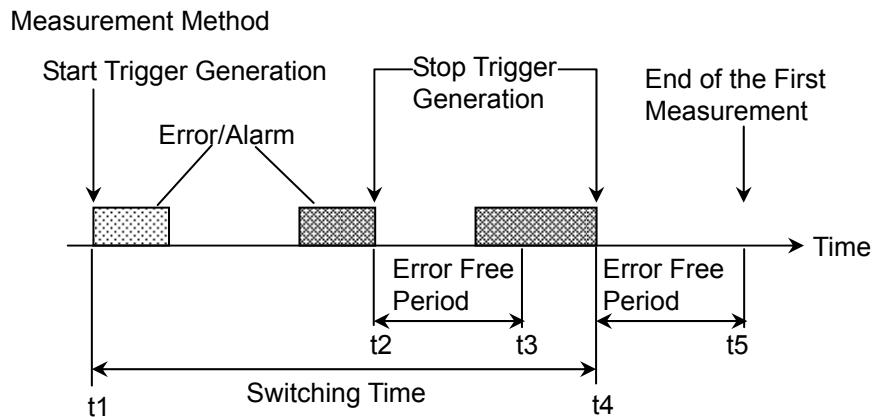

Figure 5.5.12-2 Measurement Method of Switching Time
3. After stop trigger is generated, if the stop trigger is not regenerated within the time specified by Error Free Period, the switching time, which was recorded at the above procedure 2 is regarded as the measurement result. The time from t_1 to t_2 in Figure 5.5.12-2 becomes the measurement result.